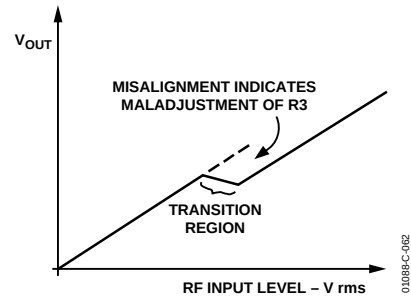

Figure 62. Intercept Adjustment
4. Finally (re)adjust R_3 as required to remove any remaining misalignment in the transfer function (see Figure 62).